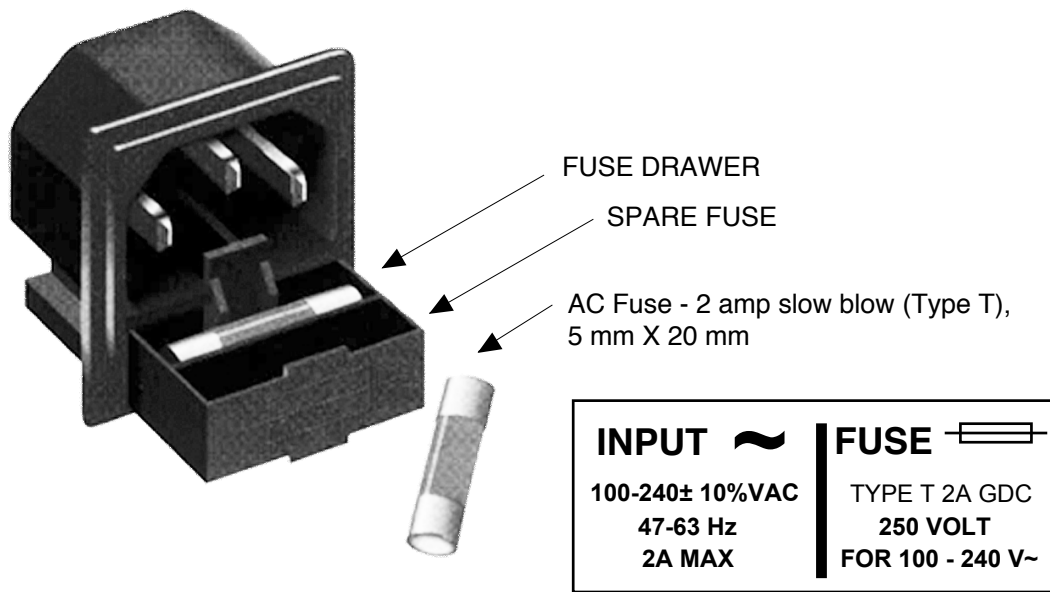

FIGURE 2.4 Fuse Location and Spare Fuse
6. AC Fuse - The fuse is a 5 mm X 20 mm, 2 amp slow blow (Type T) and is inserted in the far slot in the drawer below the AC input as shown in Figure 2.4, page 10. There is a spare fuse in the near slot.